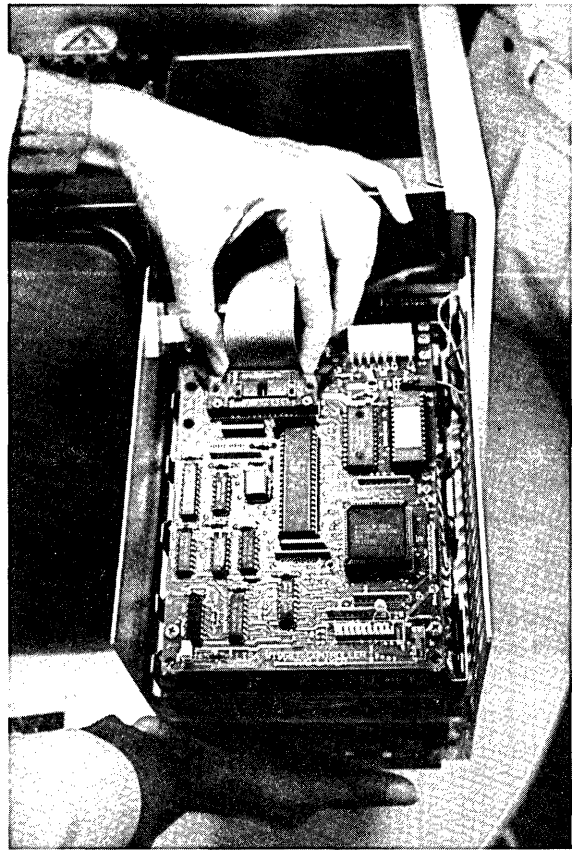

FIGURE 8
8. Locate the bus connector at the left of the power connector and pull the latches apart to eject the connector from its socket. (See Figure 8.)